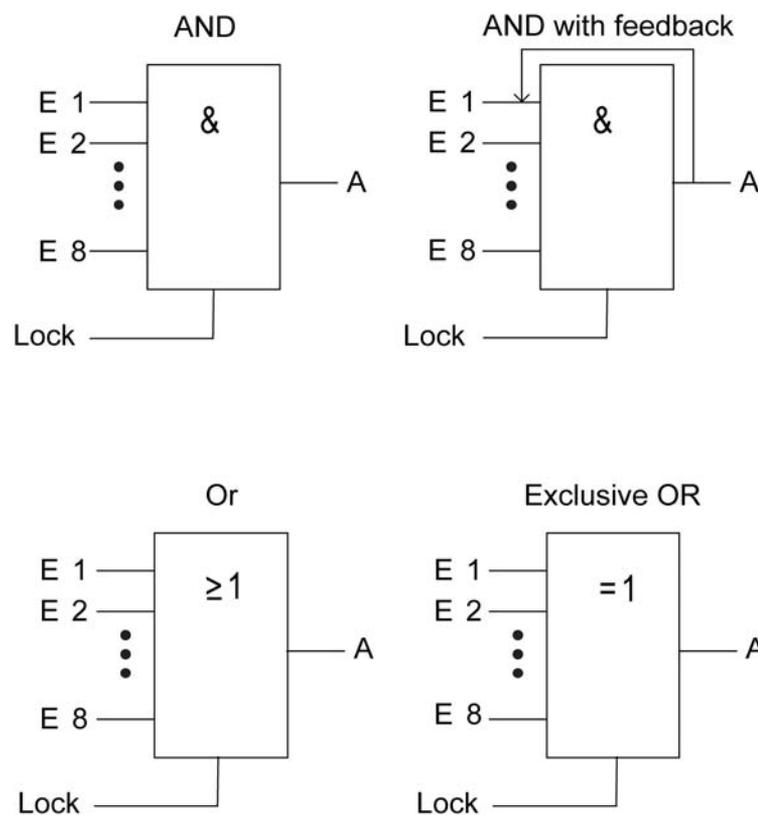

Figure 28: Link functions
A logic gate consists of up to eight 1 bit input objects (E1...E8), which can be added by clicking the right mousebutton, a 1 bit output object (A) and an option blocking object. For each logic gate, the parameter "Link type" can be used to select one of the logical functions AND, OR, exclusive OR or AND with return, which is then also shown in the tree structure (Figure 28). In addition, each input and the output can be evaluated normally or inverted.